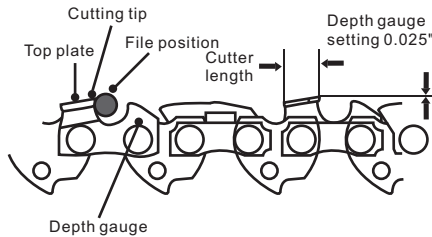

Fig. 26c
10. Use a depth gauge measuring instrument to check the height of the depth gauge. Depth gauge measuring jigs are available from most reputable tool merchants. (See Fig. 26c)